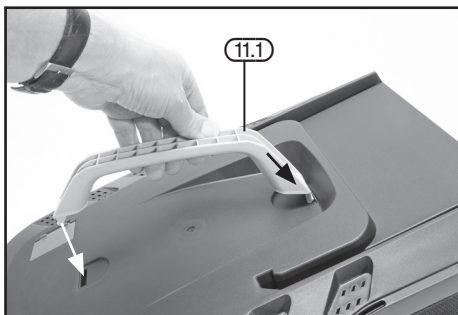

FIG. 6
**8.6 Attach Handle To Grass Collection Box - Fig.6**